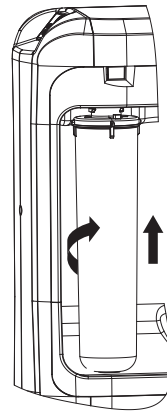

Fig. 10a
- The cartridges are inserted into the corresponding collectors until they stop and turned clockwise, as shown in Fig. 10a, until a click.
- Insert a new cartridge into the corresponding collector until it stops and turn clockwise, as shown in Fig. 10a, until a click.